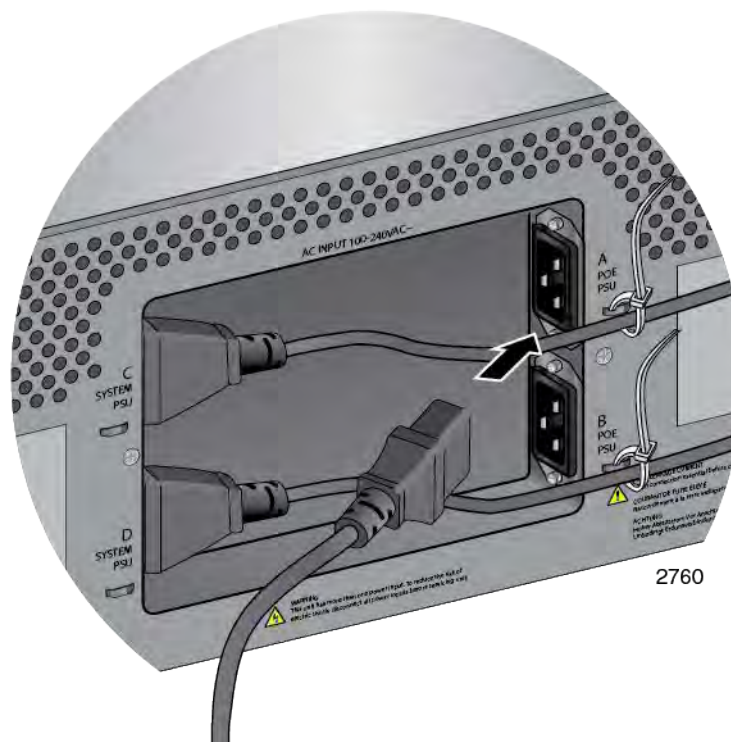

Figure 122. Connecting the AC Power Cord for the AT-SBxPWRPOE1 Power Supply
2. Plug the AC power cord that comes with the power supply into one of the plugs, as shown in Figure 122.